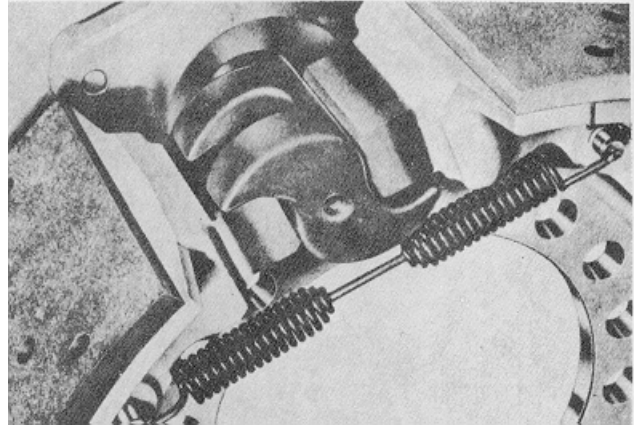

Figure 9D-28. Installing Return Springs
9. Connect brake shoe return springs, Figure 9D-28.